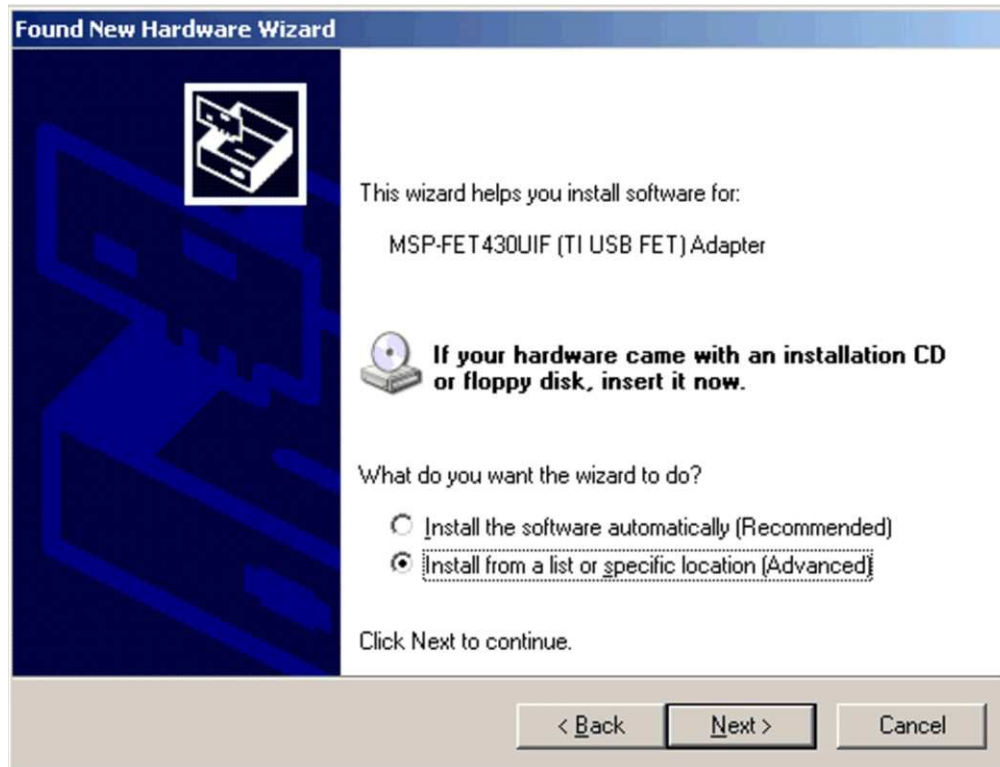

Figure C-2. Windows XP Hardware Wizard
5. Select "Install from a list or specific location (Advanced)" (see Figure C-2).